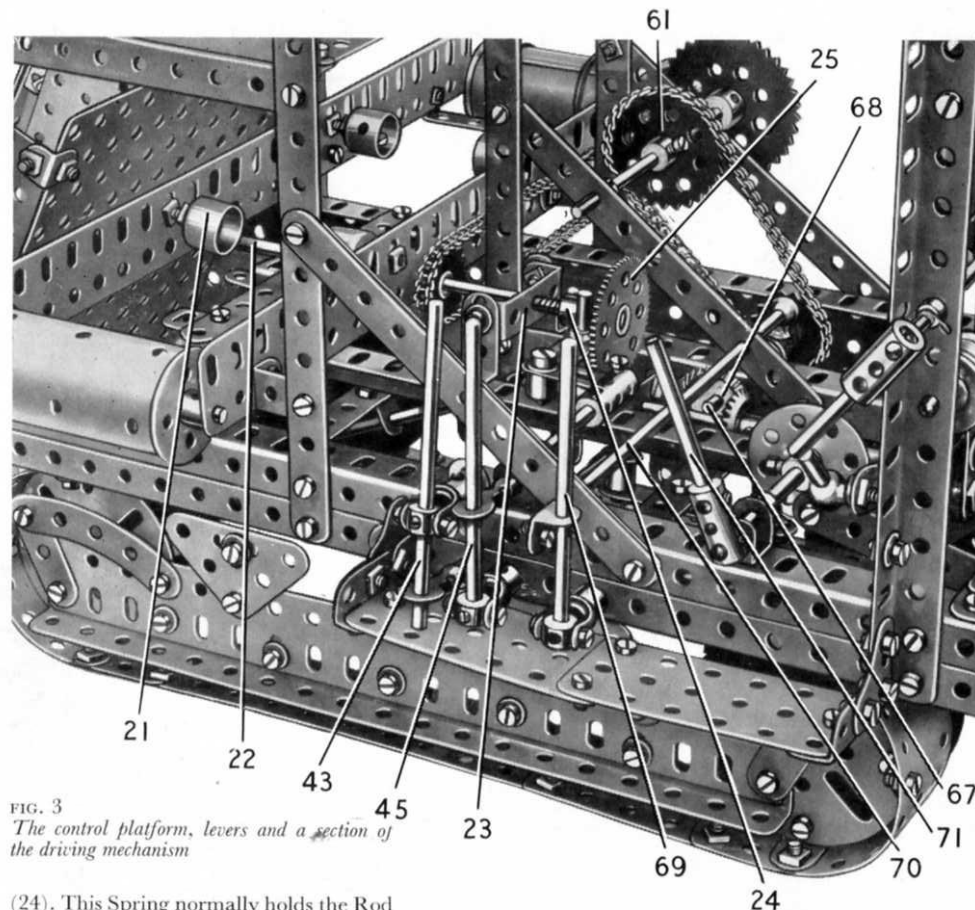
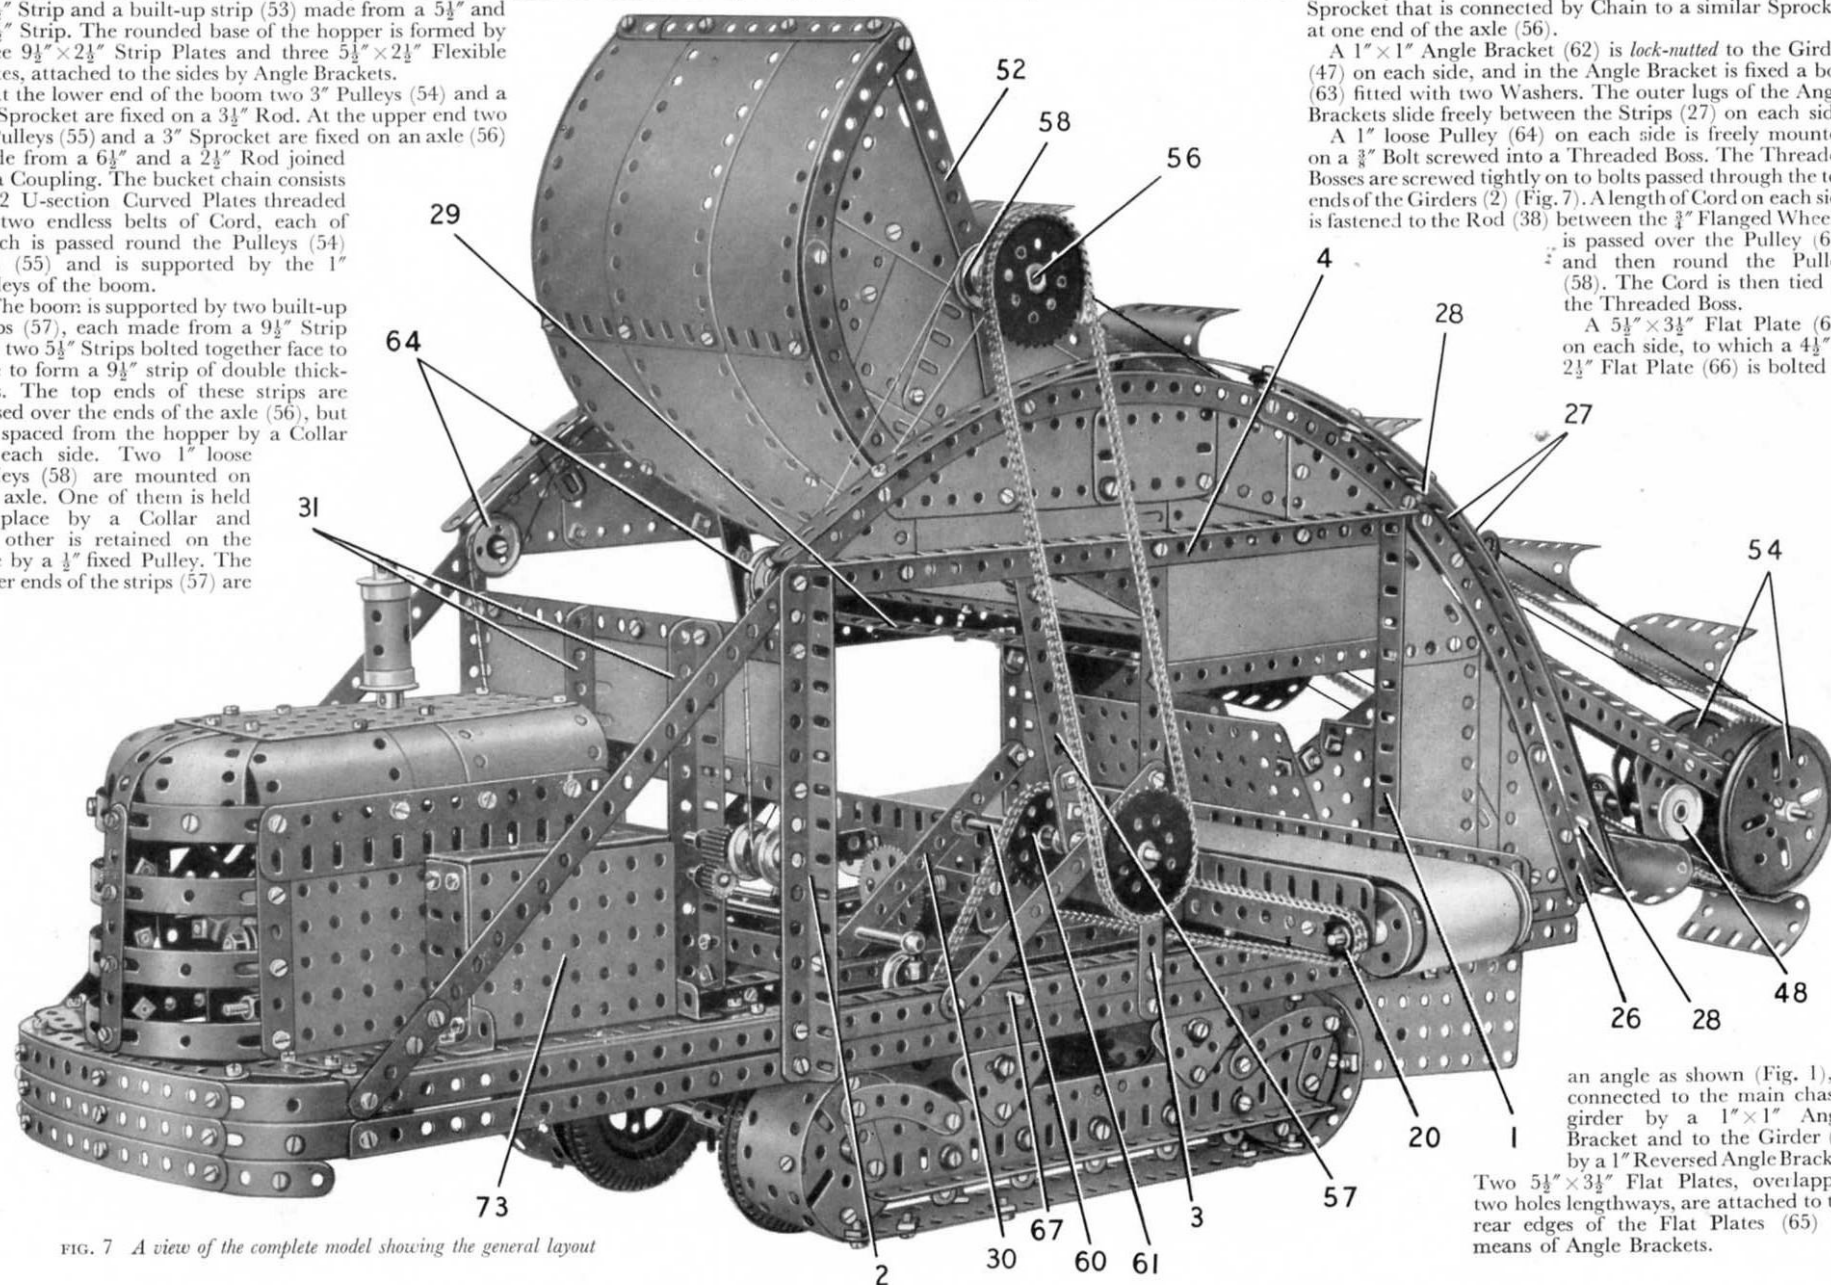

FIG. 3
FIG. 7 A view of the complete model showing the general layout
Each side-member of the chassis consists of two  $2\frac{1}{2}$ " Angle Girders arranged to form a channel section girder by bolting to them two  $7\frac{1}{2}$ " Angle Girders (1) and (2) and a  $7\frac{1}{2}$ " Strip (3) (Fig. 7). The top ends of the Girders (1) and (2) and the Strip (3) are connected by bolting to them a  $12\frac{1}{2}$ " Angle Girder (4). The side-members are connected by two built-up strips (5) and (6) (Fig. 2), each made from two  $5\frac{1}{2}$ " Strips overlapped seven holes. Two similar built-up strips (7) and (8) are fixed in position, and a further built-up strip (9) (Fig. 3) is bolted across the chassis. The strip (9) is made from two  $4\frac{1}{2}$ " Strips overlapped three holes. Two  $18\frac{1}{2}$ " Angle Girders (10) are bolted to the strips (5) and (6) as shown.
The Motor switch is operated by a lever (71) (Figs. 3 and 6) formed by a 2" Rod in a Coupling. The Coupling is fixed on a  $3\frac{1}{2}$ " Rod mounted in Double Brackets bolted to the chassis, and the Rod carries a Bush Wheel to which a built-up strip is lock-nutted. This strip consists of two  $5\frac{1}{2}$ " Strips placed face to face and extended by a  $3\frac{1}{2}$ " Strip that overlaps the  $5\frac{1}{2}$ " Strips by three holes, and it is lock-nutted also to a Bush Wheel on a  $2\frac{1}{2}$ " Rod. The Rod is held by Collars in Flat Trunnions bolted to the Girders (10), and a  $2\frac{1}{2}$ " Strip (72) (Fig. 2) is fixed across the Bush Wheel. Another  $2\frac{1}{2}$ " Strip is lock-nutted to the Strip (72) and is pivoted at its upper end on a  $\frac{3}{8}$ " Bolt screwed into a Handrail Support that is lock-nutted to an arm of the Motor switch.
The conveyor frame consists of two  $12\frac{1}{2}$ " Flat Girders, one of which is attached to the Girders (1) (Fig. 7) by  $1" \times \frac{1}{2}"$  Angle Brackets while the other is similarly attached to the Strips (3). A  $3\frac{1}{2}" \times \frac{1}{2}"$  Double Angle Strip (19) (Fig. 2) is bolted between the Flat Girders at one end.
The main conveyor rollers are formed by  $1\frac{1}{8}"$  Flanged Wheels pressed into Cylinders, and each is fixed on a 4" Rod mounted in the Flat Girders. The Rod that supports the driving roller carries a  $\frac{3}{4}"$  Sprocket (20) (Fig. 7), and two  $2\frac{1}{2}"$  Driving Bands are stretched round this roller. The belt can be made from a length of cloth or strong paper joined together at its ends. The supporting rollers (21) (Fig. 3) are Chimney Adaptors, each of which is free to turn on a  $\frac{1}{2}"$  Bolt and is held against the head of the Bolt by two nuts screwed against each other.
The Sprocket (20) is driven by a 1" Sprocket on a  $6\frac{1}{2}"$  Rod (22) (Fig. 3). This Rod is supported in the conveyor frame and in a  $1\frac{1}{2}" \times \frac{1}{2}"$  Double Angle Strip (23) that is attached to  $1" \times \frac{1}{2}"$  Angle Brackets bolted to the Girders (10). A Compression Spring is fitted on the Rod between Double Angle Strip (23) and a Collar
(24). This Spring normally holds the Rod so that a 57-tooth Gear (25) on it is kept clear of the Pinion (15) (Fig. 8). The Gear and Pinion can, however, be brought into mesh by sliding the Rod, to engage the drive to the conveyor. The movement of Rod (22) is restricted by a Collar placed inside the conveyor frame, and is controlled by a lever (45) (Fig. 3). This lever is a  $3\frac{1}{2}$ " Rod fixed in a Swivel Bearing attached to the chassis by a Pivot Bolt. The lever carries as shown a Rod and Strip Connector fixed on a  $3\frac{1}{2}$ " Rod that slides in a Double Bracket bolted to the chassis. A Strip Coupling on the  $3\frac{1}{2}$ " Rod is connected by a  $\frac{3}{8}$ " Bolt to one arm of a Bell Crank, and this is mounted freely on a Pivot Bolt fixed in one of the Girders (10). The other arm of the Bell Crank carries a Threaded Pin that engages between the Collar (24) and the Gear (25).
A 1" loose Pulley (64) on each side is freely mounted on a  $\frac{3}{8}$ " Bolt screwed into a Threaded Boss. The Threaded Bosses are screwed tightly on to bolts passed through the top ends of the Girders (2) (Fig. 7). A length of Cord on each side is fastened to the Rod (38) between the  $\frac{3}{8}$ " Flanged Wheels, is passed over the Pulley (64) and then round the Pulley (58). The Cord is then tied to the Threaded Boss.
### Drive to the Bucket Chain (Figs. 3, 5, 7 and 8)
A 4" Rod (67) (Fig. 3) is mounted in one of the Girders (10) and in one side of the chassis frame. The Rod carries a  $\frac{3}{4}$ " Bevel Gear (68), a 1" Sprocket connected by Chain to the  $1\frac{1}{2}$ " Sprocket (61), and a  $\frac{3}{4}$ " Flanged Wheel. A Compression Spring is fitted on Rod (67) between the Girder (10) and the Flanged Wheel, and this normally holds the Rod in such a position that Bevel Gear (68) is clear of Bevel Gear (17). The two Bevel Gears can be meshed by moving a lever (69). The lever is a  $3\frac{1}{2}$ " Rod held in a Swivel Bearing fixed on a Pivot Bolt bolted to the side of the chassis. An Angle Bracket passed over the lever is lock-nutted to a Rod and Strip Connector on a  $6\frac{1}{2}$ " Rod (70) and a Handrail Coupling engages the  $\frac{3}{4}$ " Flanged Wheel on Rod (67).
The side of the engine cover seen in Fig. 7 consists of a  $5\frac{1}{2}" \times 2\frac{1}{2}"$  Flat Plate and a  $5\frac{1}{2}"$  Flat Girder bolted at one end to a  $3\frac{1}{2}"$  Strip and at the other end to a  $3\frac{1}{2}"$  Flat Girder. The other side is formed by a  $5\frac{1}{2}"$  Strip, a  $5\frac{1}{2}"$  Flat Girder, a  $3\frac{1}{2}"$  Flat Girder, a  $3\frac{1}{2}"$  Strip and a  $5\frac{1}{2}"$  Braced Girder attached to the  $5\frac{1}{2}"$  Strip by two Hinges. A  $5\frac{1}{2}"$  Angle Girder extended by a  $2\frac{1}{2}"$  Angle Girder is bolted to the lower edge of each side of the engine cover, and these Girders are used to attach the structure to the chassis frame. At one side of the engine cover a box structure (73) is fitted (Fig. 7).